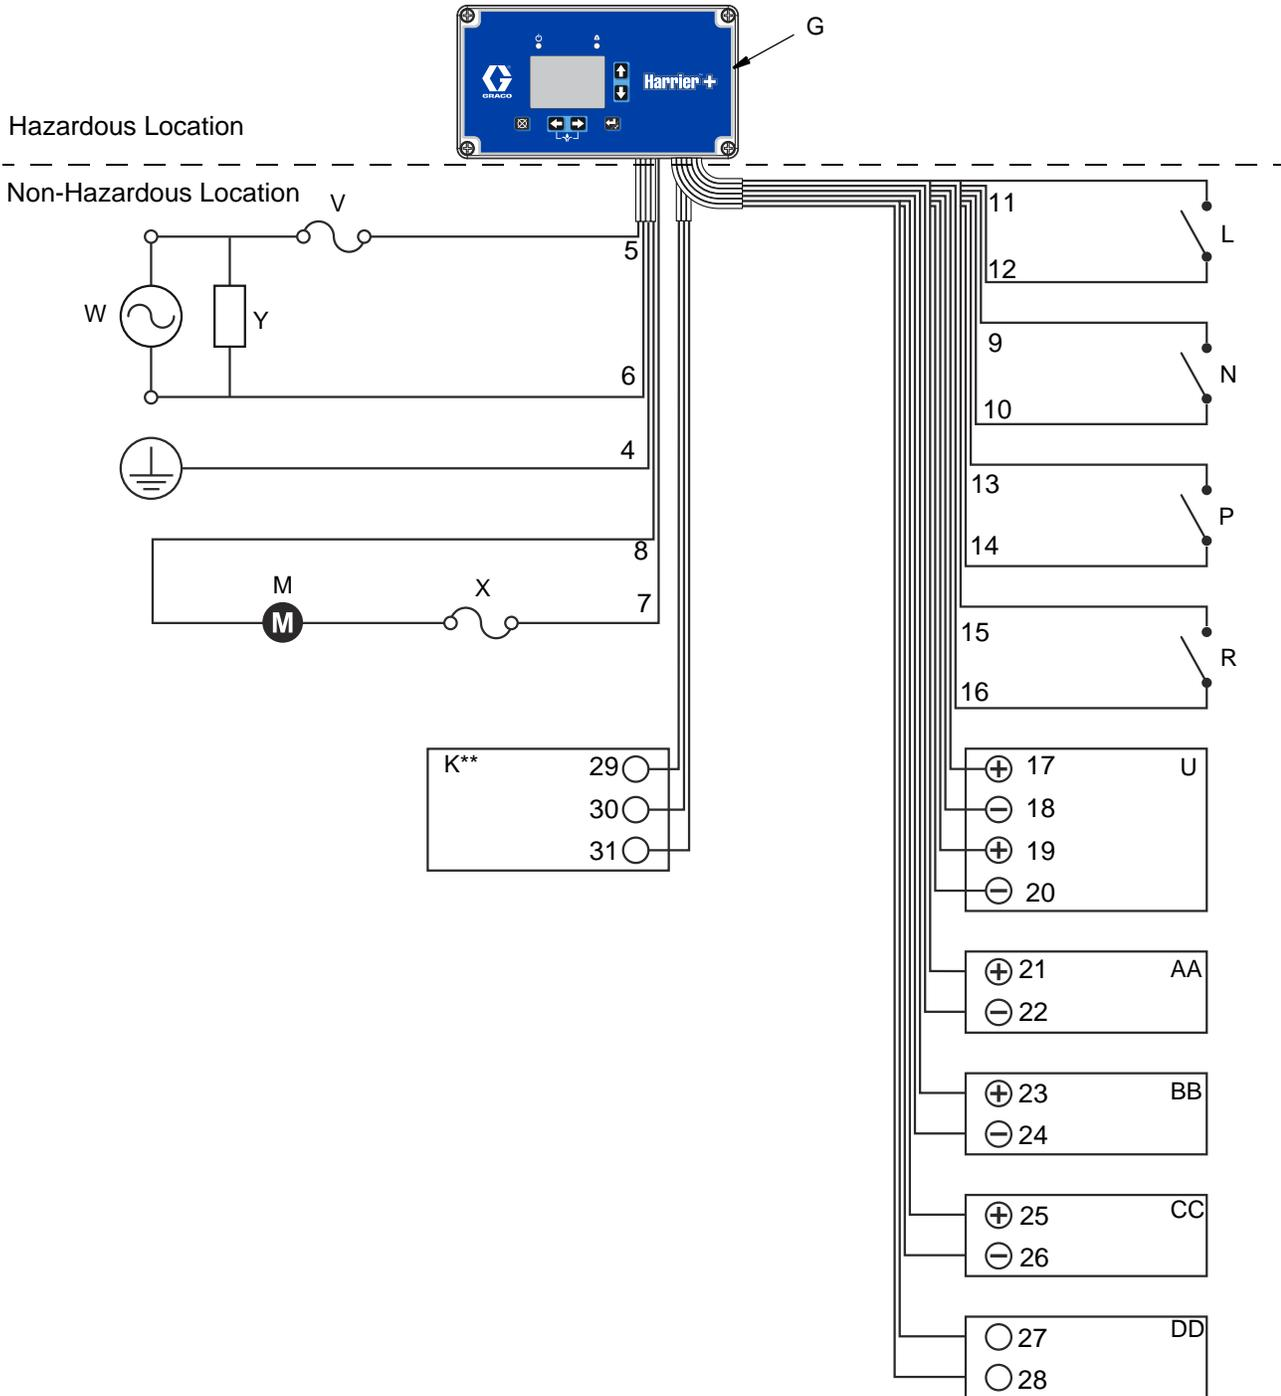

FIG. 3: Typical 120 VAC Installation
FIG. 3 is an example of 120 VAC installation. Your installation may differ from what is shown here. The Harrier+ controller (G), with wiring, is supplied by Graco. All other components are supplied by the customer. Contact your Graco distributor for assistance in planning a system to suit your needs.